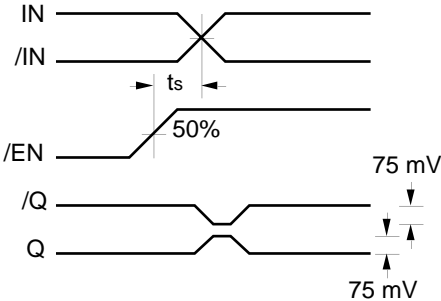

Figure 1. Set-up Time
- The set-up time is the minimum time that /EN must be asserted prior to the next transition of /IN/IN to prevent an output response greater than $\pm 75\text{mV}$ to that /IN/IN transition (see Figure 1).